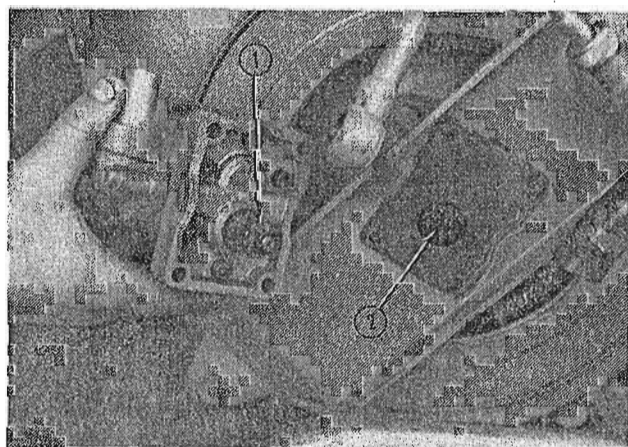

FIG. 3
The pump can be removed by disconnecting the banjo fittings from the pressure and suction ports and removing the (4) 6 mm. bolts and nuts. Figure 3 shows the drive hub on the pump (1, Fig. 3) and its matching drive adapter (2, Fig. 3) bolted to the engine flywheel.